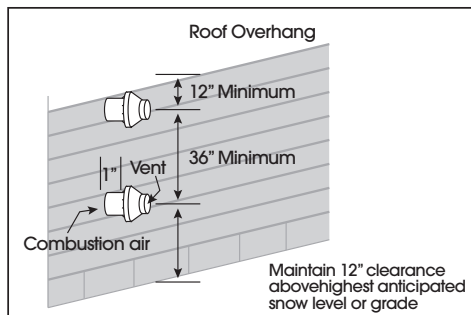

Figure 4-Sidewall Termination for Multiple Vertical Extended Concentric Vents
- Refer to Figures 4 & 6 when venting multiple units using multiple Extended Concentric Vents.
NOTE: Maintain clearance dimensions as shown in Figure 4, 5, 6 & 7.